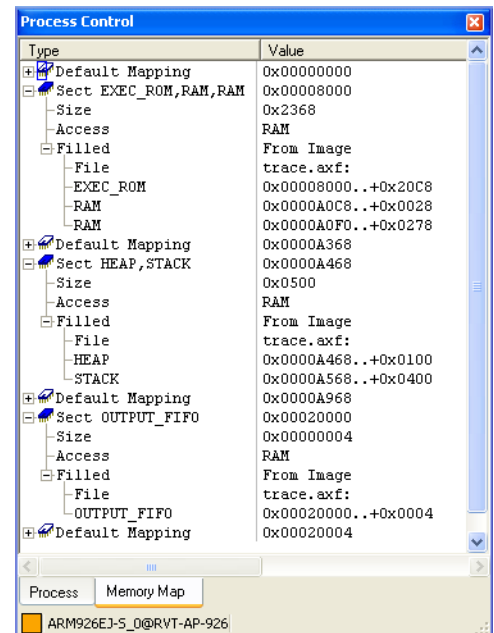

Figure 10-2 Image details in the memory map
5. Expand the Sect and Filled groups in the memory map to see the image details. Figure 10-2 shows an example: